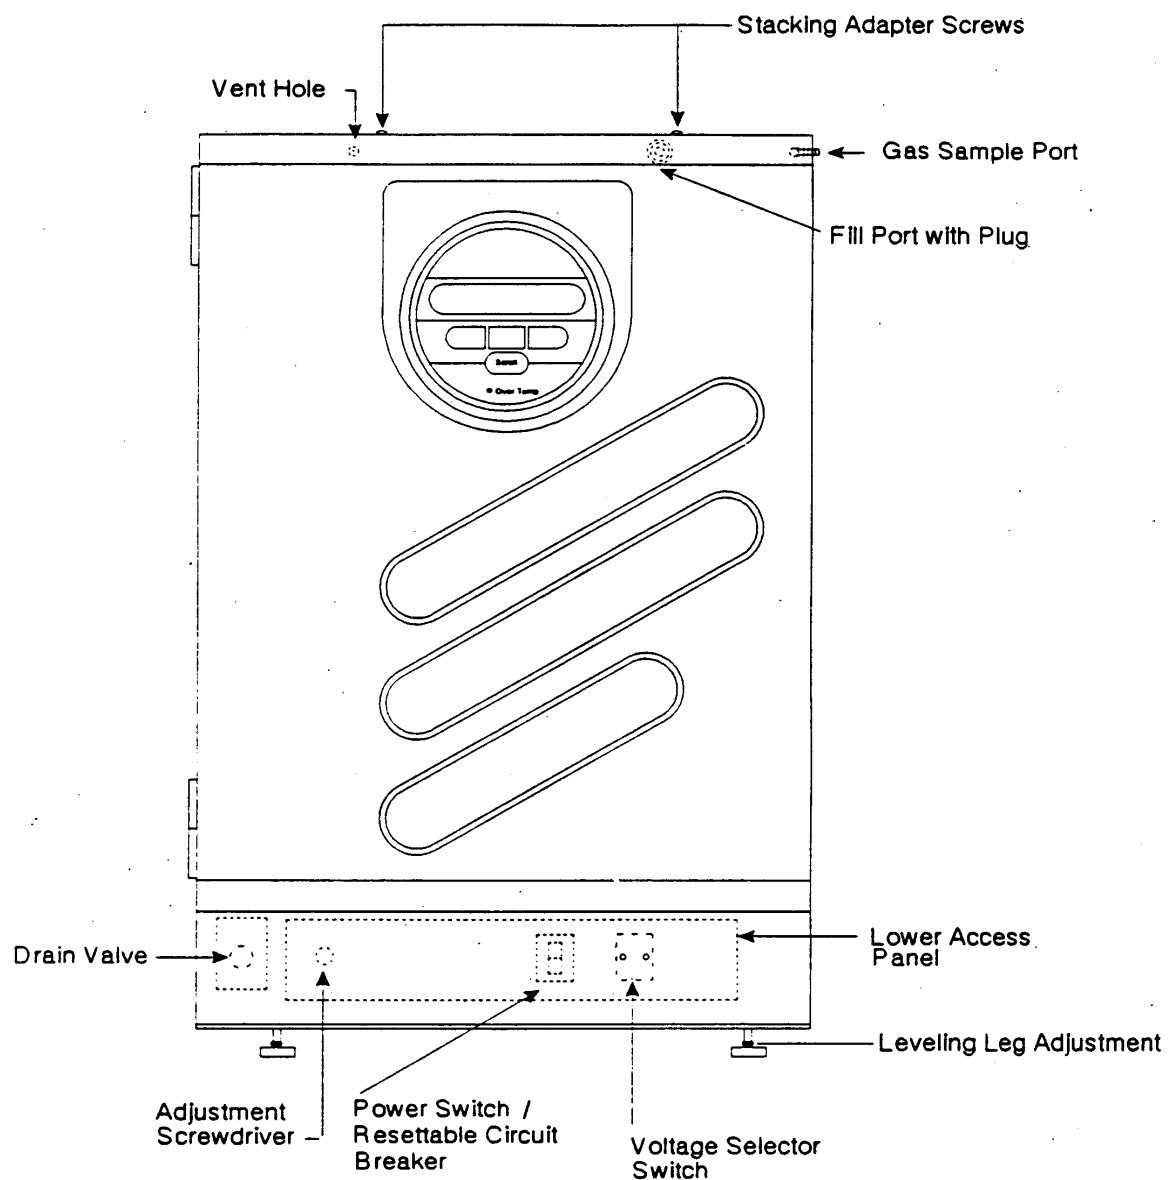

Figure 3.1
3.2 Overview of Controls (Refer to Figure 3.1)